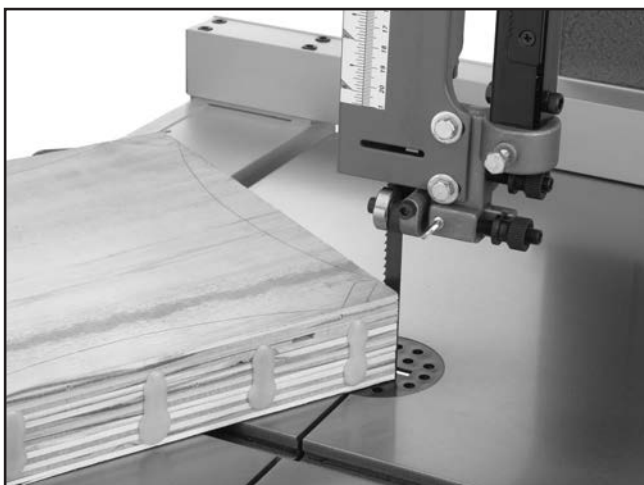

Figure 45. Typical stacked cut.
5. Cut the stack of pieces as though you were cutting a single piece. Follow your layout line with the blade kerf on the waste side of your line, as shown in **Figure 45**.